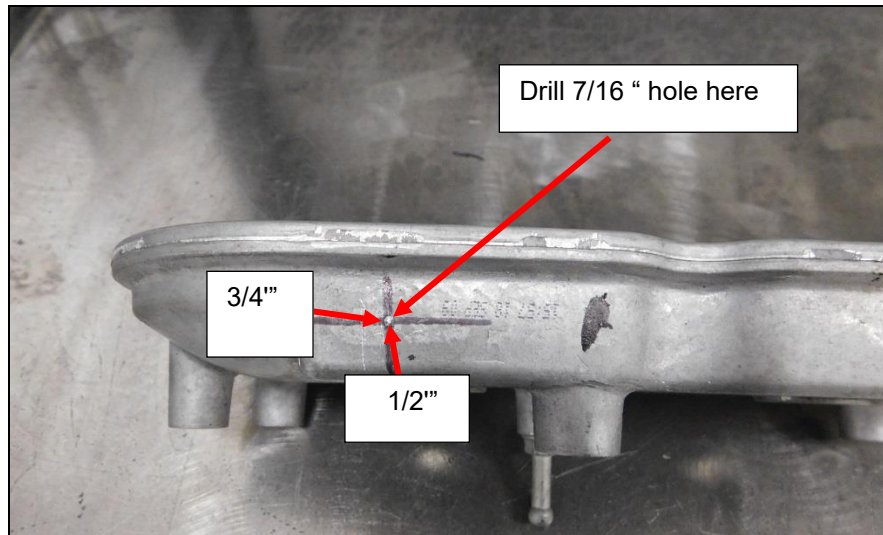

Figure 10
1. Use a center punch and mark the location shown in **Figure 10**.